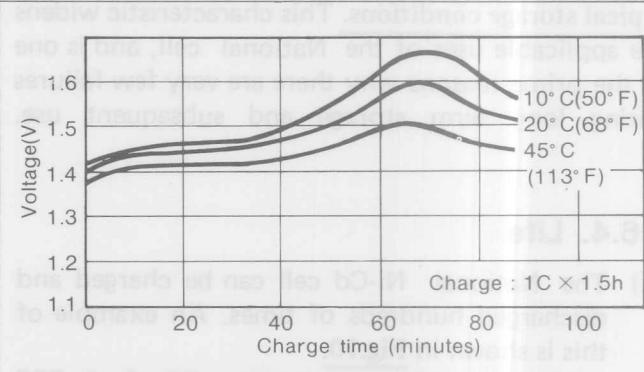

Fig. 8 Effect of temperature on rapid charge
(D) Rapid charging characteristics are shown in Fig. 8.